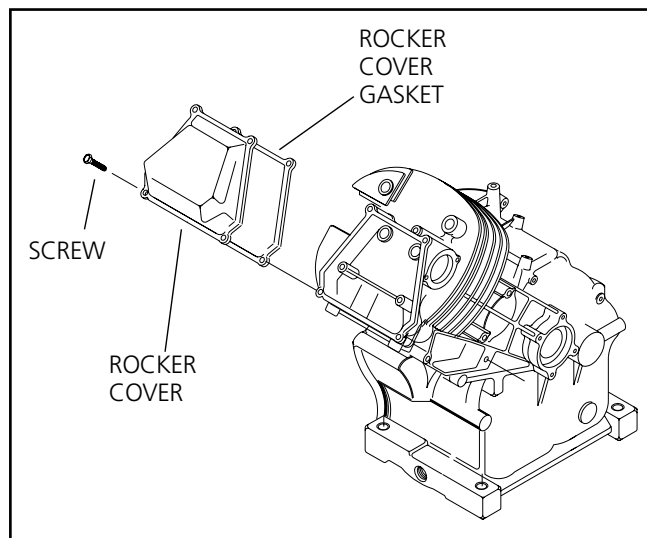

Figure 6-18. Install Rocker Cover
1. Using a new rocker arm cover gasket, install the rocker arm cover and retain with four screws (see Figure 6-18).